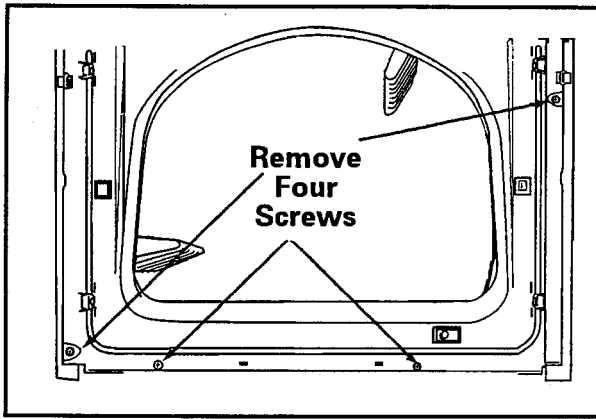

Figure 6-2
2. Remove the two screws securing the shroud to the tumbler front and the two screws securing the shroud to the outlet duct. Pull the shroud free from the assembly, (See Figure 6-2).